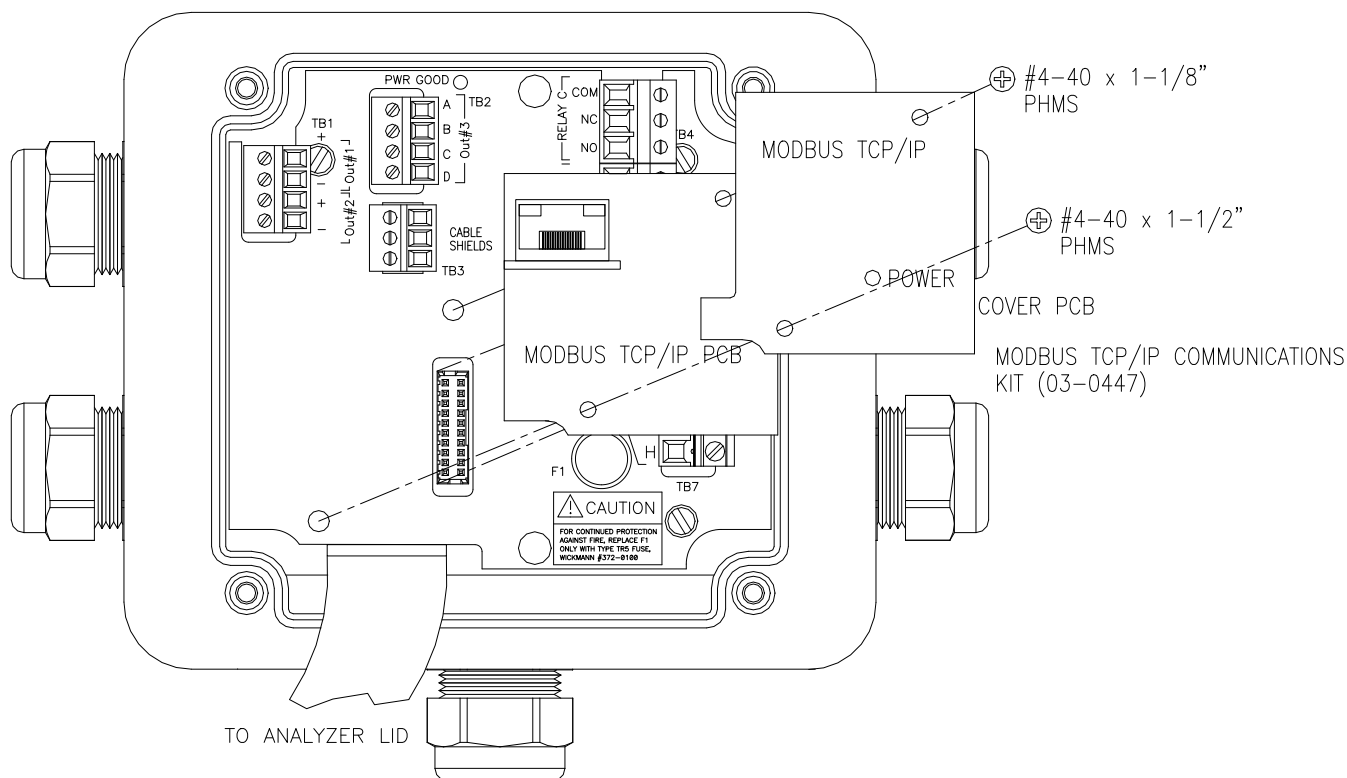

Figure 1 – Modbus TCP Card Installation
4. Align the cover board holes with the holes in the circuit board and use the screws supplied to secure the assembly. Refer to Figure 1 below for the proper assembly.